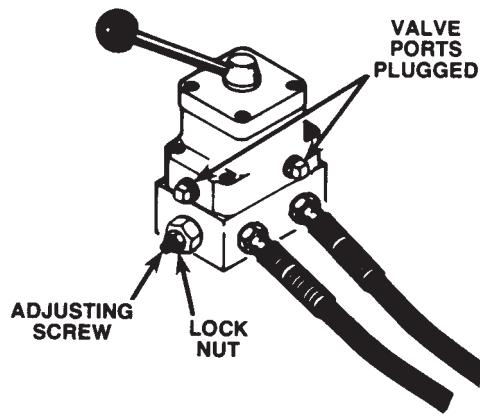

FIGURE 2
- Place pipe plugs, as shown in Figure 2, in the control valve ports when adjusting the pressure regulating control or fully extend all cylinders.
1. Loosen lock nut on the pressure regulating valve and turn the adjusting screw counterclockwise to decrease the pressure setting to a lower than desired setting (see Figure 2).